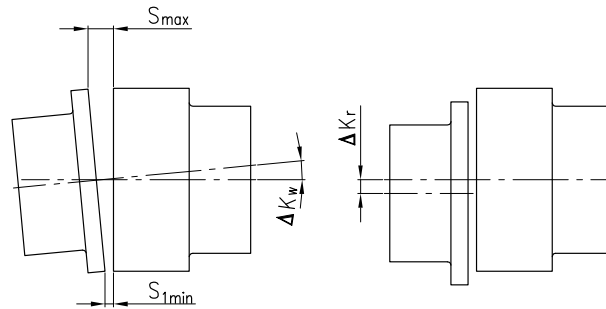

Fig. 8: Angular and radial misalignment of couplings
- Never connect a larger suction pipe direct to the pump. Flow eddies reduce the free flow area of the pump. Use an eccentric reducer. Consider Figure 8 + 9.